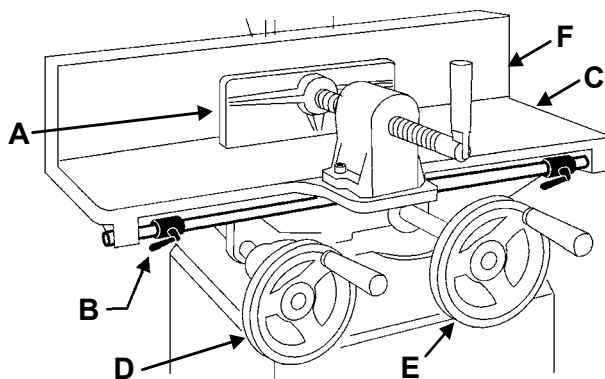
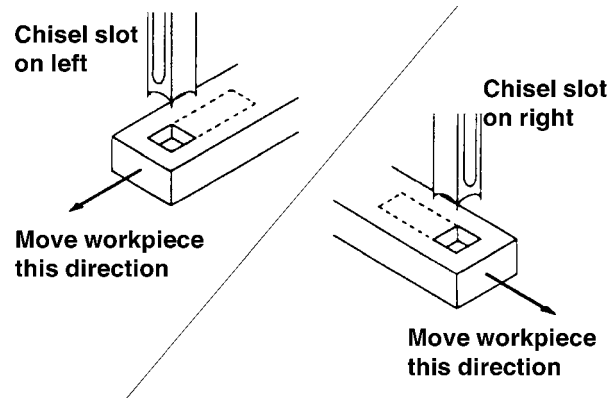

Figure 13
Figure 14
5. Place workpiece on table (C, Fig. 13) and clamp it with the vise (A, Fig. 13). Use the left handwheel (D, Fig. 13) to move table forward or backward to suit the position of the mortise on the workpiece.
6. Adjust the table stops according to the length of cut required, then tighten the *thumbscrews* (B, Fig. 13).
8. After the first cut, the workpiece is moved along with the right handwheel (E, Fig. 13) for each successive cut. The direction of movement must allow the chips to clear freely. Move the workpiece so that the slot in the chisel is releasing chips into the already cut part of the workpiece (Figure 14).